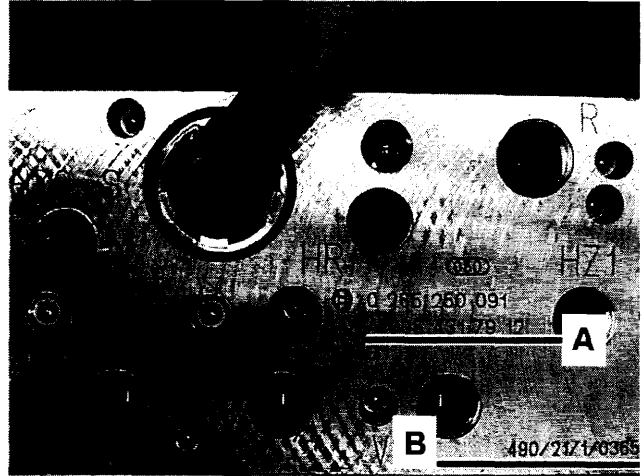

Figure 1
1. Check if part number (A, Figure 1) is listed in the table below:
- If the part number (A) **is** listed, proceed to step 2.
- If the part number (A) is **not** listed proceed to step 3.
2. Check (refer to table below) if the production number (B, Figure 1) is within the listed production number range for the relevant part number (A):
- If the production number (B) is **not** within the production number range proceed to step 3.
- If the production number (B) **is** within the production number range compared to the relevant part number; proceed to Subject B, Replacement of SBC Hydraulic unit.
When reading the production number (B, Figure 1) on the SBC hydraulic pump, disregard the slashes.